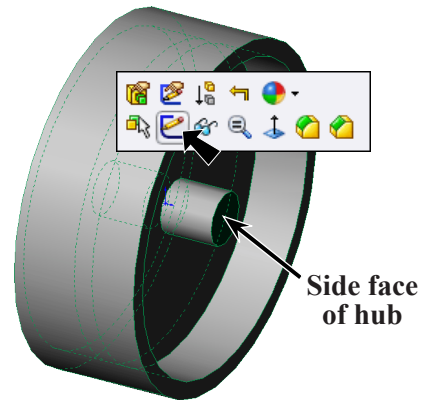

Fig. 9
Step 4. Click Zoom to Fit  (F) on the View toolbar.
Step 1. Click the **side face of hub** and click **Sketch**  on the Content menu, **Fig. 9**.